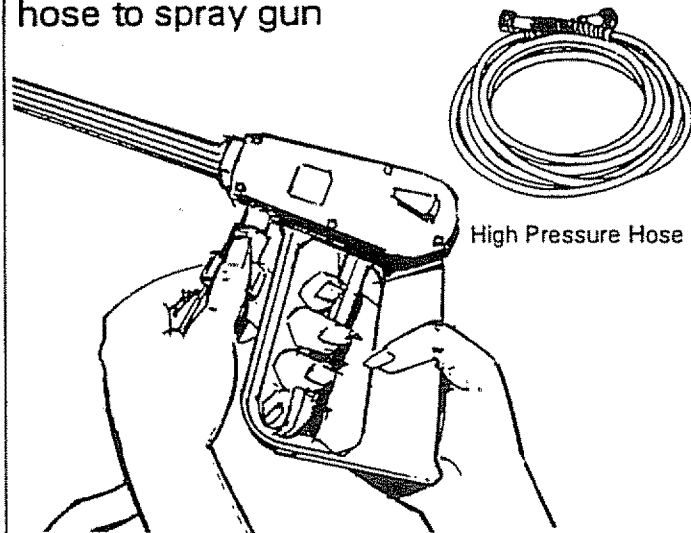

FIG. 4
- Unravel high pressure hose and attach one end of hose to the base of the spray gun (Fig. 4). Tighten by hand.